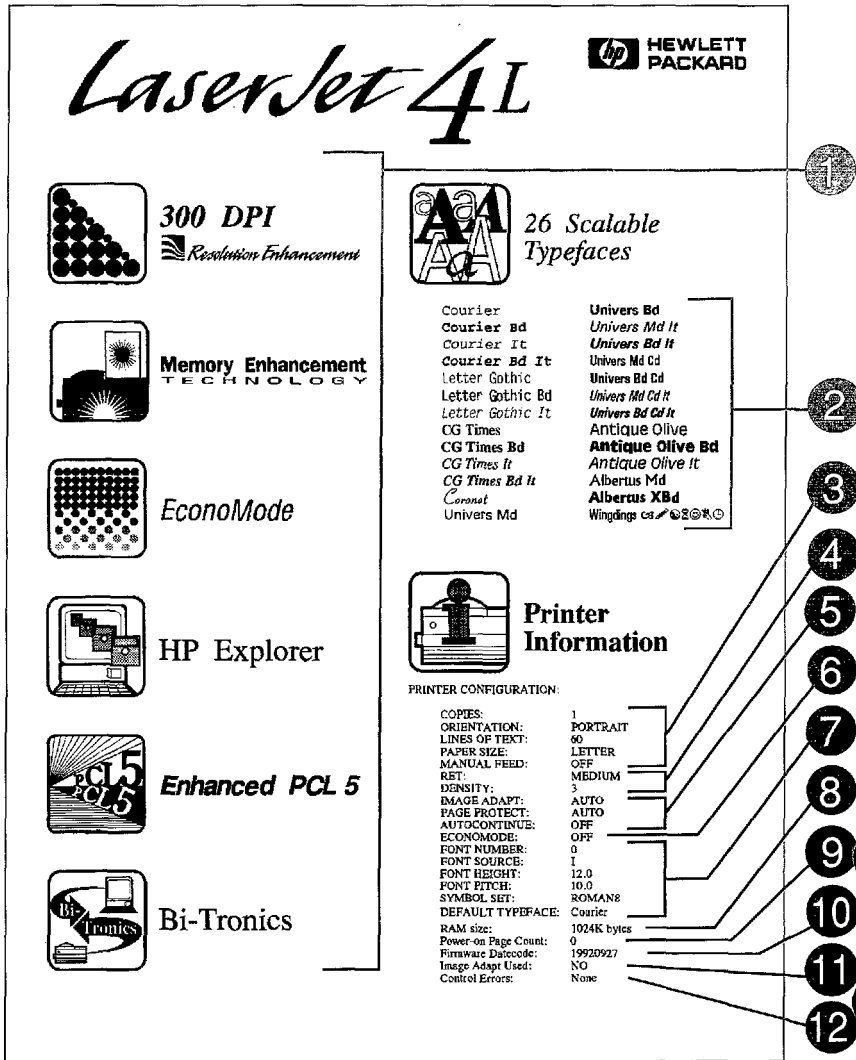

Figure 3-6 LaserJet 4L Self Test Page (showing default settings)
3. After about 6 seconds, the Data light blinks and the self test page starts to print (see Figure 3-6). Usually, only one page prints. If fonts or macros have been downloaded, a second page prints.
Figure 3-6 shows a self test printout for the LaserJet 4L. It lists all factory default settings.
Removing ac power returns items 3 through 12 to factory default settings (shown in Figure 3-6).